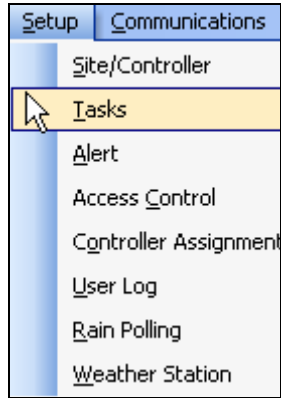

Figure 11.4.1
- In the toolbar at the top of the screen select **Setup** and scroll down to **Tasks** and click on it (Figure 11.4.1).